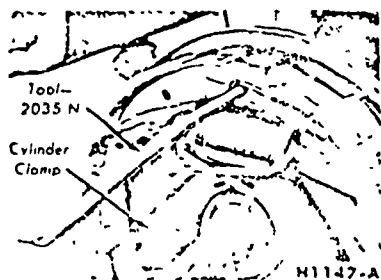

FIG. 7—Retracting Spring Installation
5. Install the primary shoe to anchor spring with the tool shown in Fig. 7.
7. Install the secondary shoe to anchor spring (Fig. 7).